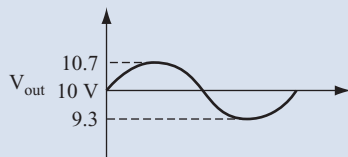

FIGURE 6.44
E. The output waveform is shown in Figure 6.44.